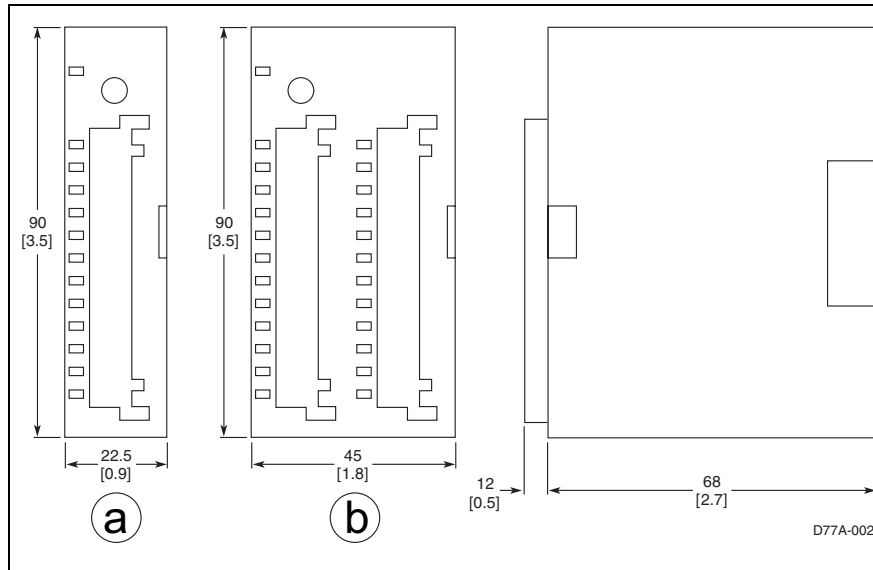

**Figure 1: I/O Module Component Location**
**Figure 1** illustrates the front and back of a typical **IT**. D77A I/O module.